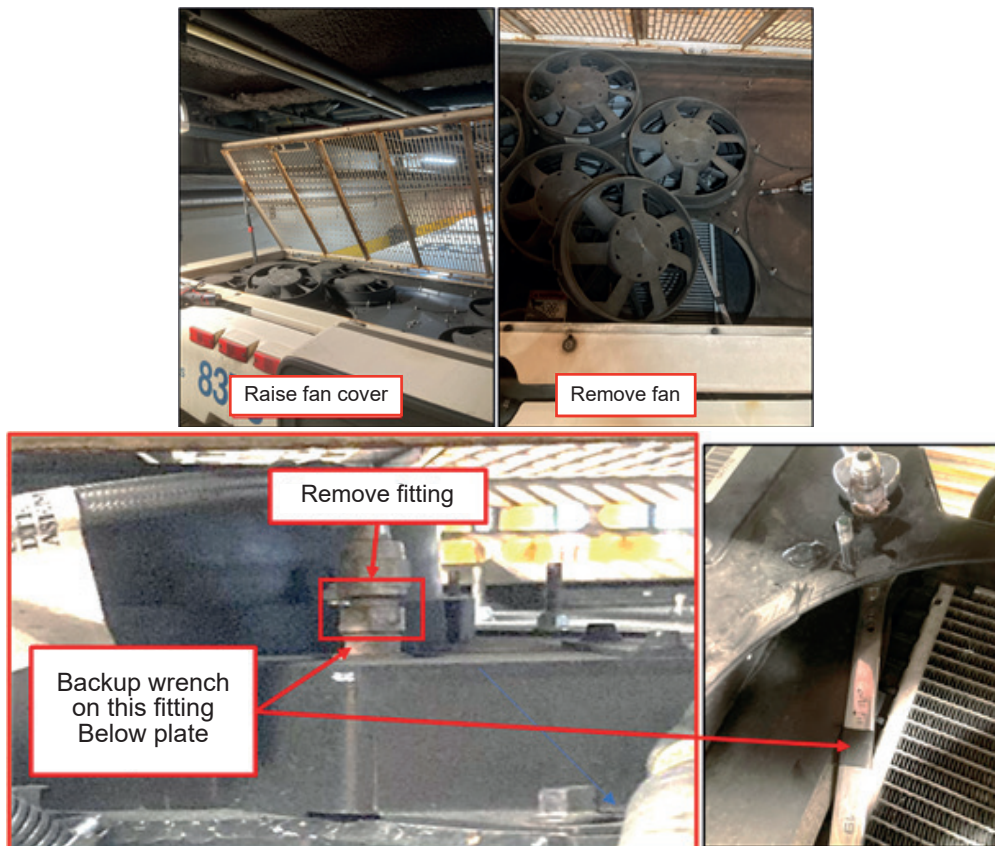

Figure 3 - Removal of Fan
1.7. Remove fan, if needed to place back up wrench onto radiator inlet vent fitting (see figure 3).